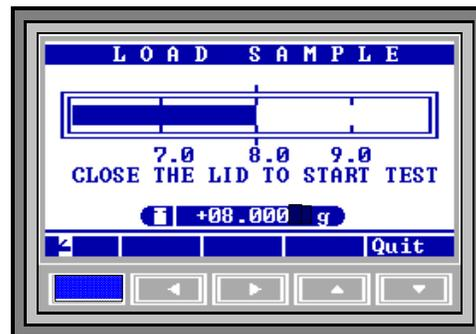

Figure 4 WEIGHT DISPLAY
- 3.6.3 While a test is in progress, the horizontal bar is not displayed. Only the weight in grams is displayed at the bottom center of the screen (shown as +08.000 grams in **Figure 4**).